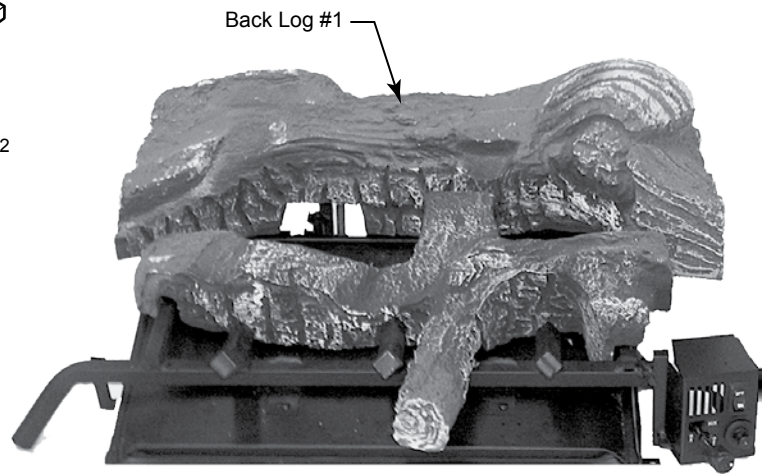

**Figure 29**
1. Place bottom front log (#2) on front of grate. *Figure 29*